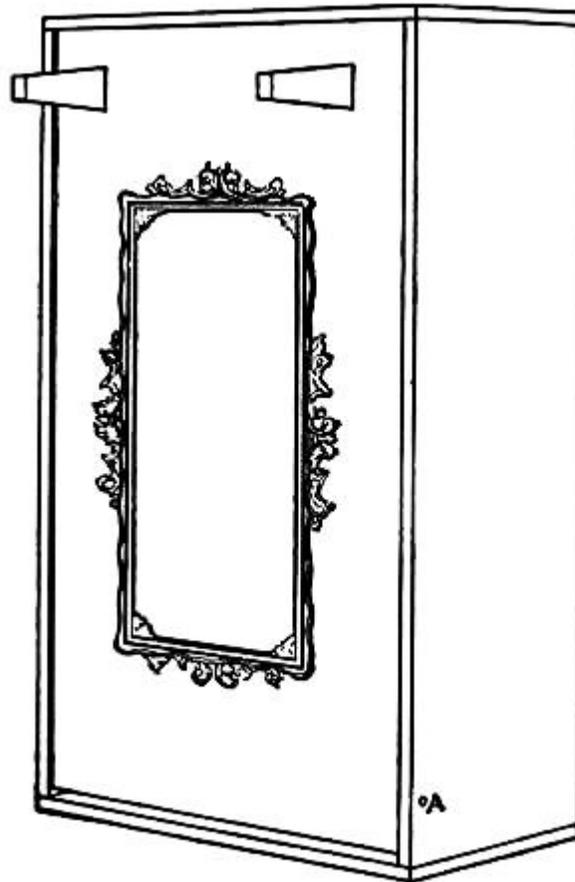

FIG. 139.—A Doll's Folding-bed.
**A Folding-bed**, such as is shown in Figs. 139 and 140, select two cigar-boxes, one of which will fit inside the other. The smaller box should be a little shorter than the inside opening of the larger box. After removing the paper from each, place the smaller box inside the larger one, as shown in Fig. 139, so that the bottom of the inner box is flush with the edge of the outer box. Then drive a brad through both boxes on each side, about three-quarters of an inch from the end as shown at A (Fig. 139). These brads should run through the outer box into the bottom of the inner box, and should be driven in carefully so as not to split the wood. The inner box should now fold down as shown in Fig. 140, moving upon the brad pivots. Purchase a five or ten cent mirror and fasten it to the front of the bed, after which cut two wooden feet similar to Fig. 141 and glue the pegs on the ends of these in gimlet holes made above the mirror. Finish the wood the same as described for the other cigar-box furniture.